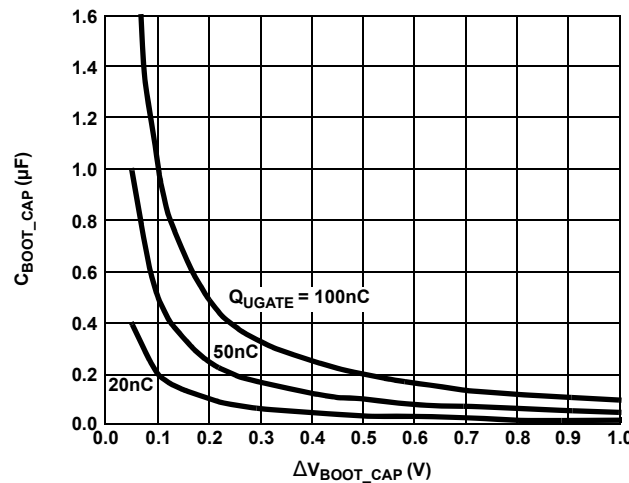

Figure 7. Bootstrap Capacitance vs Boot Ripple Voltage
- ΔV_{BOOT_CAP} is defined as the allowable droop in the rail of the upper gate drive. Select results are exemplified in Figure 7.